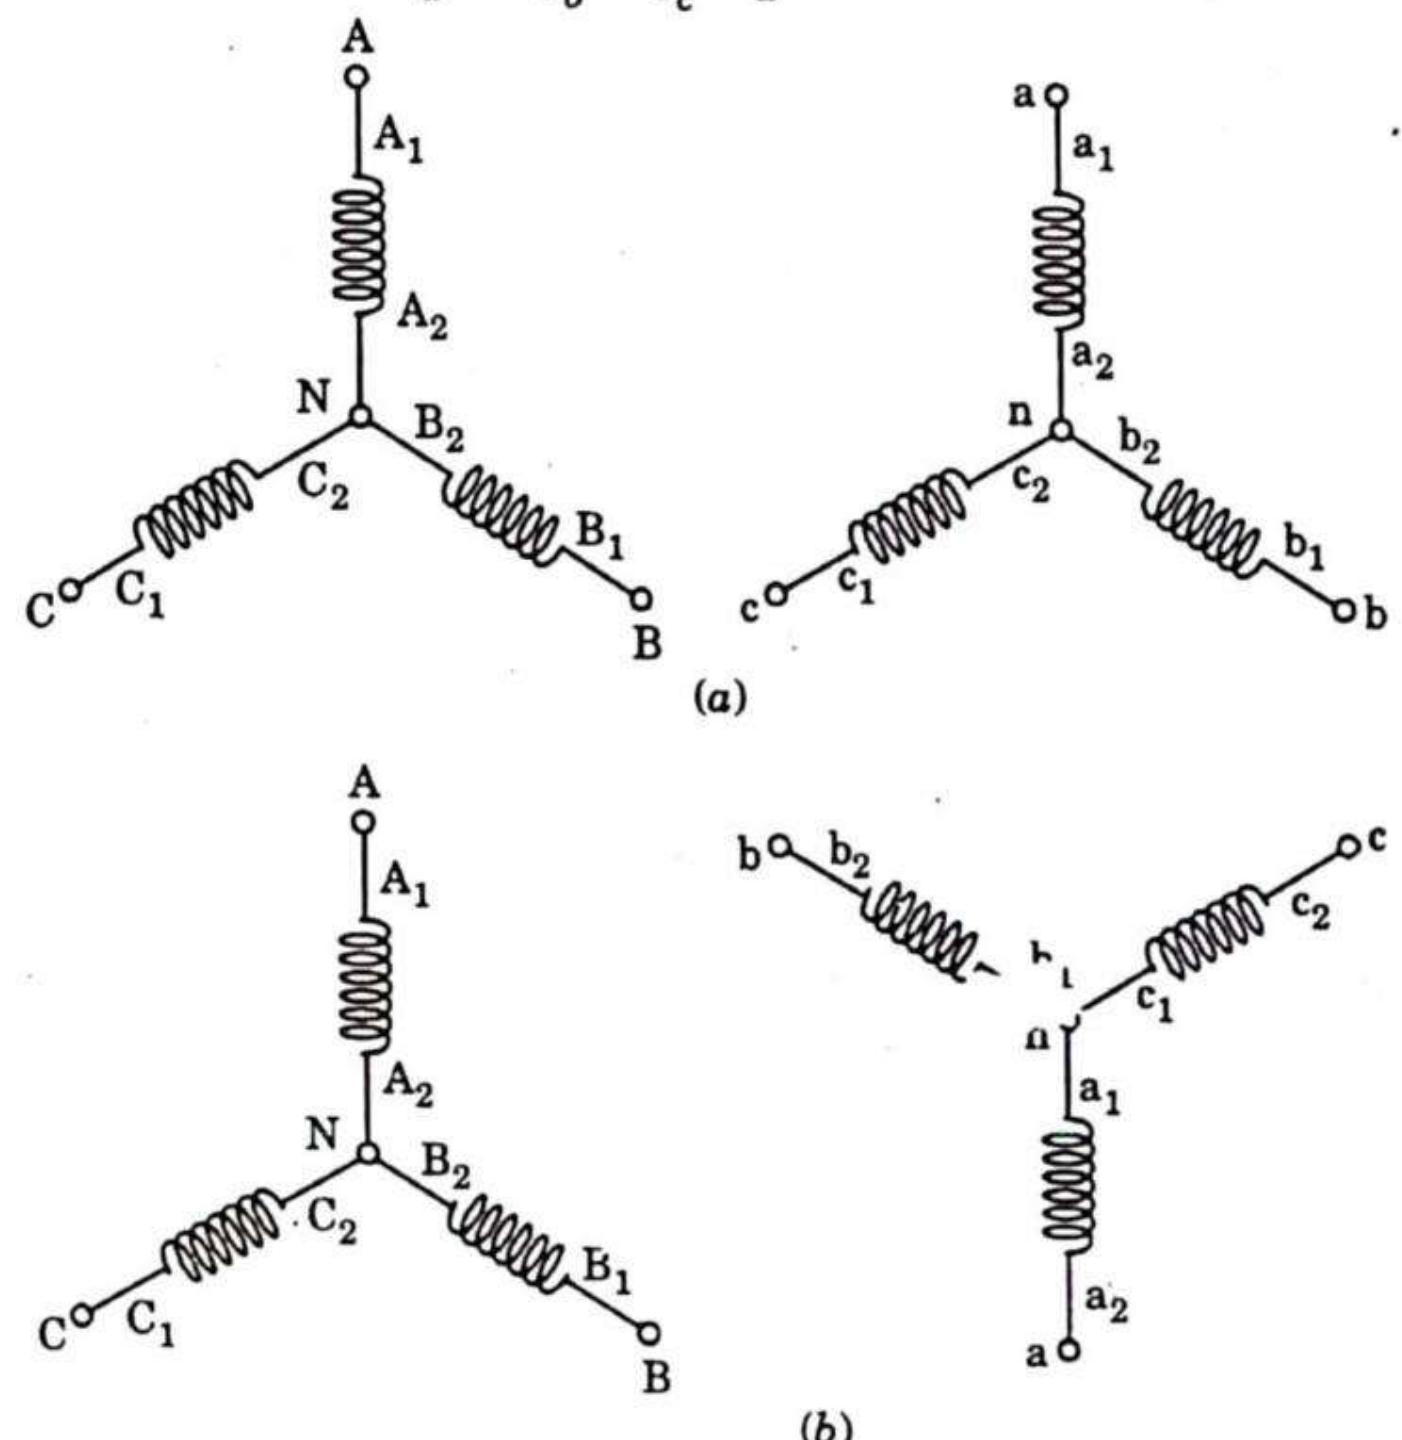

Fig. 3.21.1. Star-star connection of transformer
- Fig. 3.21.1 shows the $Y - Y$ connection of three identical single-phase transformers or the three identical windings on each of the primary and secondary sides of the 3ϕ transformer.